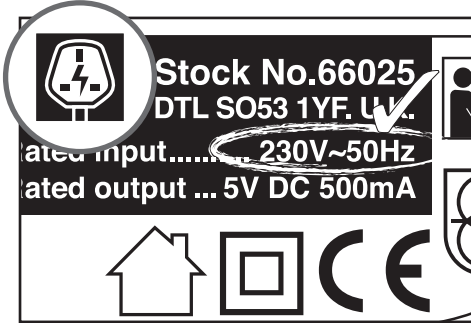

FIG.1
- ⑤ 230V AC (USB) mains charging adaptor.
- ⑥ 12V DC (USB) in-car adaptor charger.
- ⑦ USB (B)/Micro USB (B) cable.
8.1 POWER SUPPLY – FIG. 1